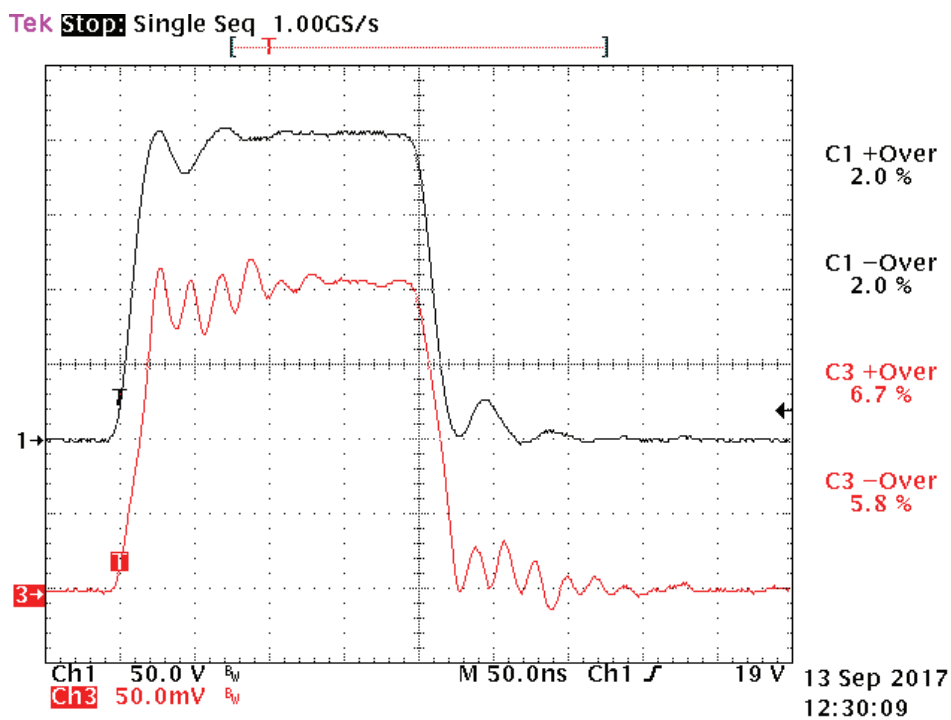

Figure 9. HF compensation.
5. **Short-Pulse Compensation:** Using the alligator clip, connect the probe tip across the ceramic resistor. Use a short-pulse, HV generator to apply a fast rise-time pulse to the resistor. Here, we used an Avtech AVIR-4-C generator which is capable of producing 200-V, 200-ns pulses. Adjust R3, the high-frequency peaking adjustment, to give the most faithful pulse reproduction. See Figure 9 for a comparison.